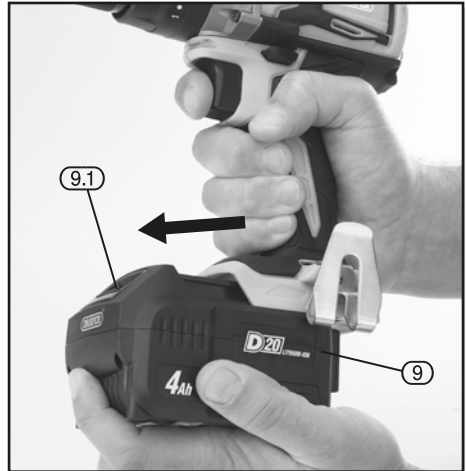

FIG.1
- Press the battery release button (9.1) and gently slide the battery pack off (Fig.1).
- Plug the battery charger (11) unit into a 230V/AC 13amp three pin supply socket.